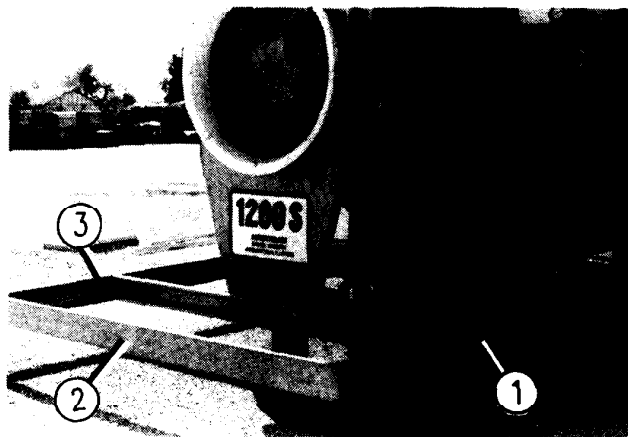

FIG. 3 - CONNECTING SIDE AND FRONT CHANNELS
- F. Position the left-hand side channel (No. 1, Fig. 3, D61-0058) and the right-hand side channel (No. 3, Fig. 3, Part No. D61-0057) so the sides with the dimpled holes are UP and connect them to the rear anchor channels and the main support channel. Use the special 5/16" dia. flat-head allen capscrews to secure the TOP SIDE of the two side channels. Use 5/16" x 3/4" bolts at the bottom side.
- G. Position the front channel (No. 2, Fig. 3, D61-0061) so the side with the large holes is up and connect it to the two side channels as shown in Fig. 3. Use flat-head allen capscrews to secure the top side.